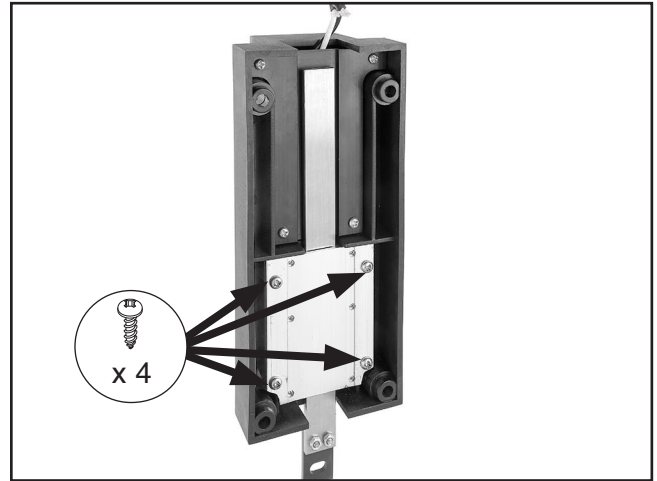

Figure 5. DRO housing removed from drill press head.
3. Remove (4) M4 x 12 tap screws shown in **Figure 5**, and remove DRO unit from housing.